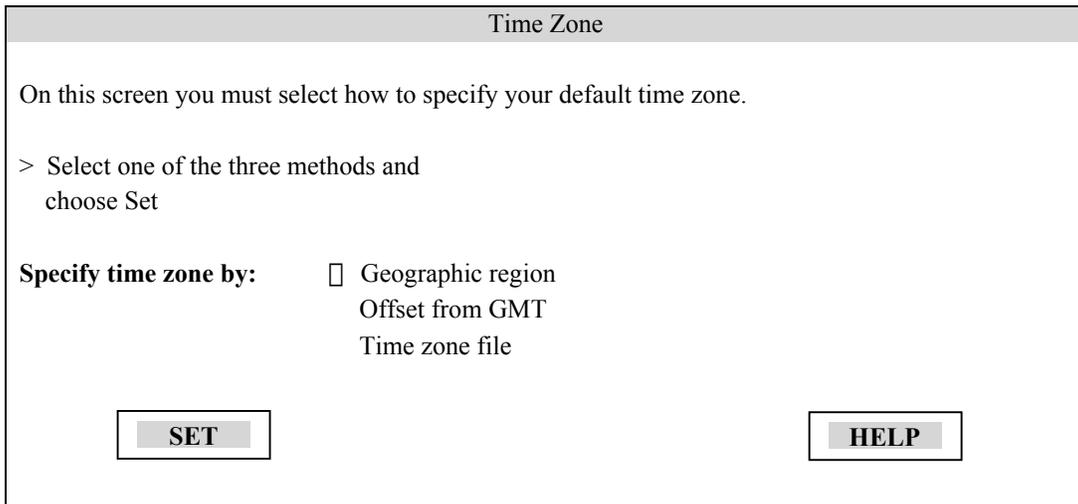

Figure 3-25 Time Zone Screen
21. A window titled “Time Zone” (Figure 3-25) will be displayed.